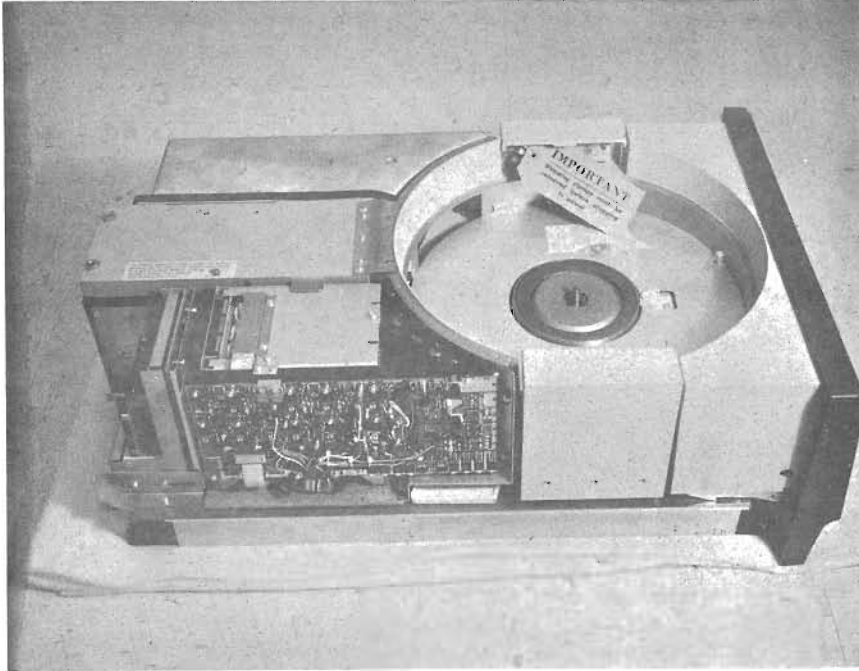

FIGURE 16
- 16) Remove the cover over the Read/Write electronics and the Heat Sink electronics on the disk drive unit. See Figure 16.